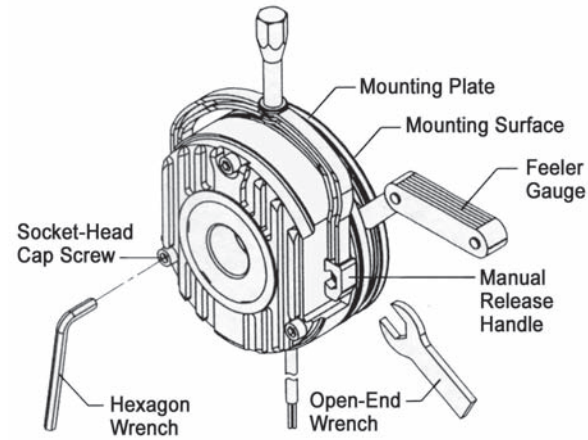

Fig. 1
3. Air Gap Adjustment - Reassemble the brake using the three Socket Head Cap Screws (Mounting Plate now assembled to the Motor or Mounting Surface). Adjust Air Gap per Dimensions Table using an Open End Wrench and the Hexagon (Allen) Wrench and the Socket Head Cap Screws. The Air Gap measurement is between the Armature Plate and the Case Assembly (use Feeler Gauge), (See Figs. 1 and 3). Measure and set the Air Gap in at least three locations (120 Deg. intervals) around the periphery of the brake. The Air Gap should not vary more than +/- 0.002" (0.050 mm) at any location.